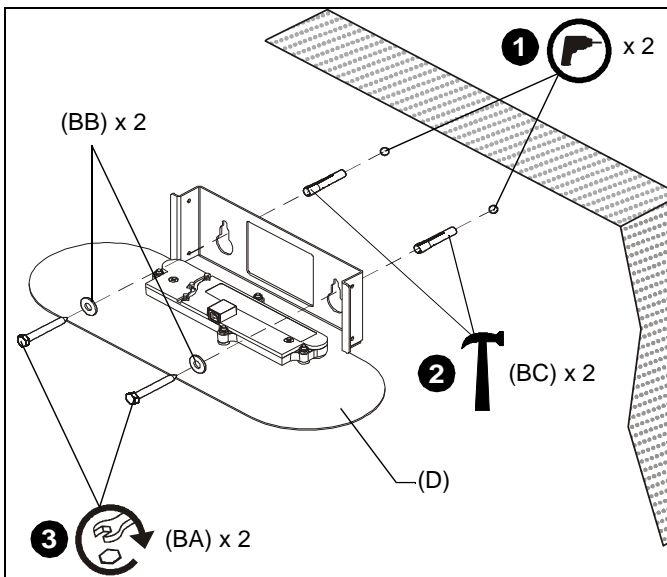

Figure 1
1. Drill two 3/8" holes at marked locations in wall. (See Figure 1)
2. Install two concrete anchors (BC) into drilled holes. (See Figure 1)
3. Install two 5/16 x 2-1/2" hex head lag screws (BA) through two 5/16" washers (BB), middle section of mounting holes in sensor assembly (D) and into concrete anchors (BC). (See Figure 1)